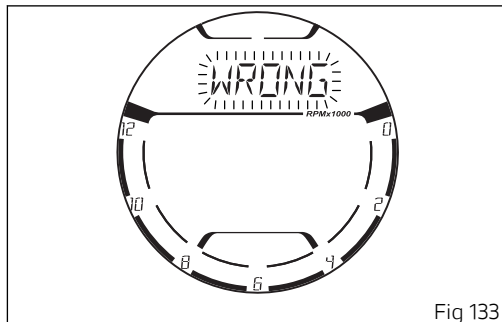

Fig 133
Once the fourth digit has been set, when pressing button (4) (Fig 132) the instrument panel checks whether the entered PIN CODE corresponds to the one stored. If they do not correspond, the display shows "WRONG" flashing for 3 seconds (Fig 133).